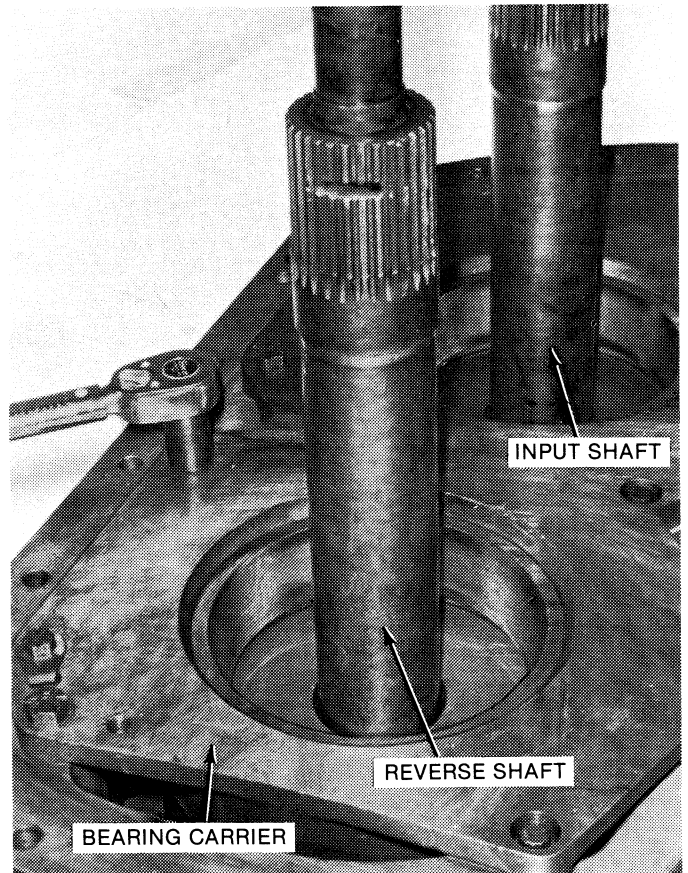

Figure 6-32. Removing or Installing Screws on Bearing Carrier.
10. Remove the place-head and 12 point head screws (Figure 12-7, 3 and 2) and remove the bearing carrier (1). See Figure 6-32.